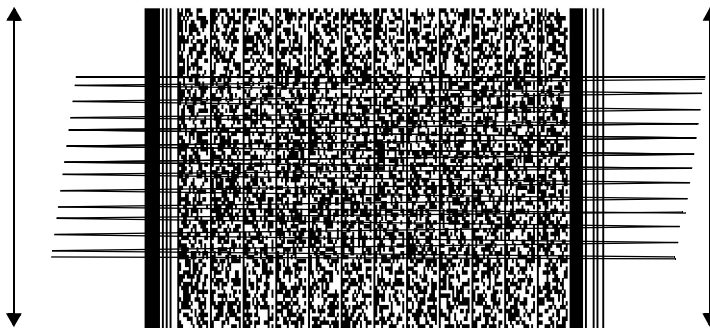

Figure 4-11. Moving Scan Pattern Upward and Downward on “Tall” PDF Symbol
3. If the vertical scan pattern is not high enough to cover a “tall” PDF417 symbol, it may be necessary to move the scanner slowly down toward the bottom of the symbol, keeping the beam horizontal to the rows, and then slowly back upward toward the top (refer to Figure 4-11).